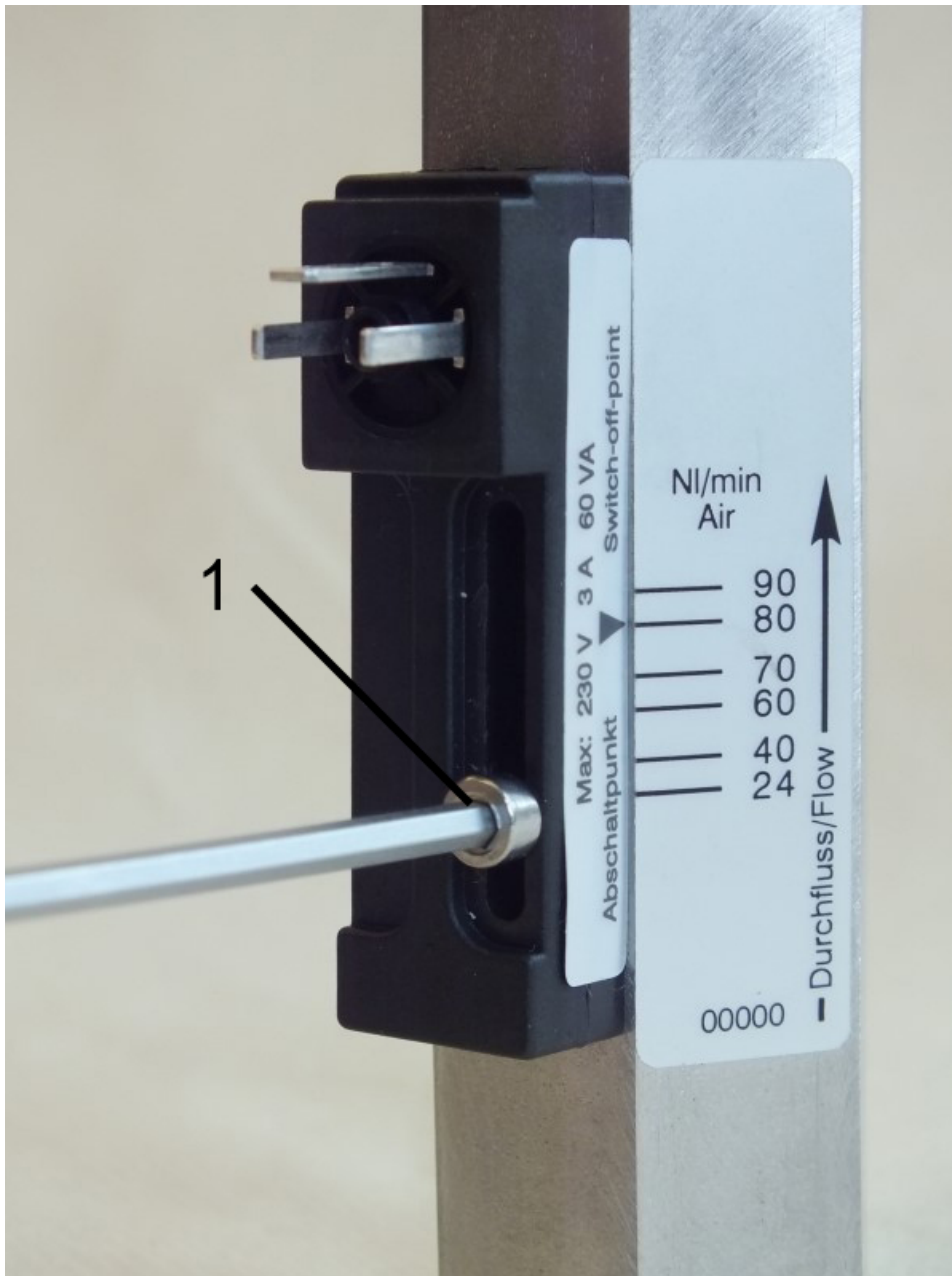

Fig. 32: Loosen set screw
1. Loosen the set screw of the switch contact (Fig. 32/1) using a Hex screwdriver.
3. Re-tighten the set screw of the switch contact (Fig. 32/1) using a Hex screwdriver. When doing so, observe the correct tightening torque of the screw.